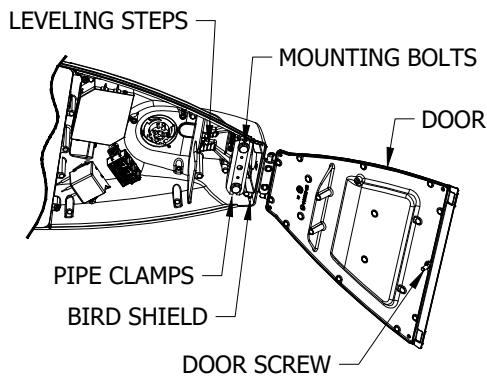

FIGURE 4
- (A) HPSV/LPSV CONVERSION TO LED: REMOVE AND REPLACE ENTIRE HPSV/LPSV STREET LIGHTING FIXTURE AND BALLAST AND REPLACE WITH EQUIVALENT LED FIXTURE SHOWN IN TABLE 1. FOR OVERHEAD FEED CONVERSIONS, MOUNT THE REPLACEMENT LED FIXTURE AT THE EXISTING FIXTURE HEIGHT OR HIGHER WHILE MAINTAINING REQUIRED CLEARANCES TO OTHER FACILITIES PER OH1509.
1. **BIRD SHIELDS:** THE BIRD SHIELD BEHIND THE PIPE CLAMP HAS A 1 1/4-INCH (1.660 OD) OPENING. REMOVE SHIELD IF LARGER PIPE IS USED. SEE FIGURE 4.
2. **MOUNTING ARM:** UNFASTEN, OPEN AND REMOVE DOOR FROM HINGE CRADLE. ADJUST PIPE CLAMP OPENING SLIGHTLY LARGER THAN PIPE SIZE. INSERT MOUNTING ARM THROUGH BIRD-SHIELD (IF USED) AND INTO THE LUMINAIRE UNTIL IT HITS THE LEVELING-STEPS EXTENDING FROM TOP OF HOUSING. SEE FIGURE 4.
3. **LEVELING:** TILT THE LUMINAIRE UP OR DOWN USING LEVELING-STEPS. TO LEVEL, HOLD LUMINAIRE APPROXIMATELY LEVEL AND SNUG UP BOLTS. ONCE LEVEL, TIGHTEN EACH MOUNTING BOLT ALTERNATING BETWEEN BOLTS. REFER TO INSTALLATION INSTRUCTIONS FOR BOLT TORQUES. DO NOT OVERTIGHTEN BOLTS. IF UPWARD TILT IS NEEDED, LOOSEN BOLTS SLIGHTLY, LIFT LUMINAIRE AND INSERT IT TO THE NEXT SET OF STEPS. IF DOWNWARD TILT IS NEEDED, EXTRACT THE MOUNTING ARM FROM LUMINAIRE TO SIT ON THE REARWARD STEPS. SEE FIGURE 4.